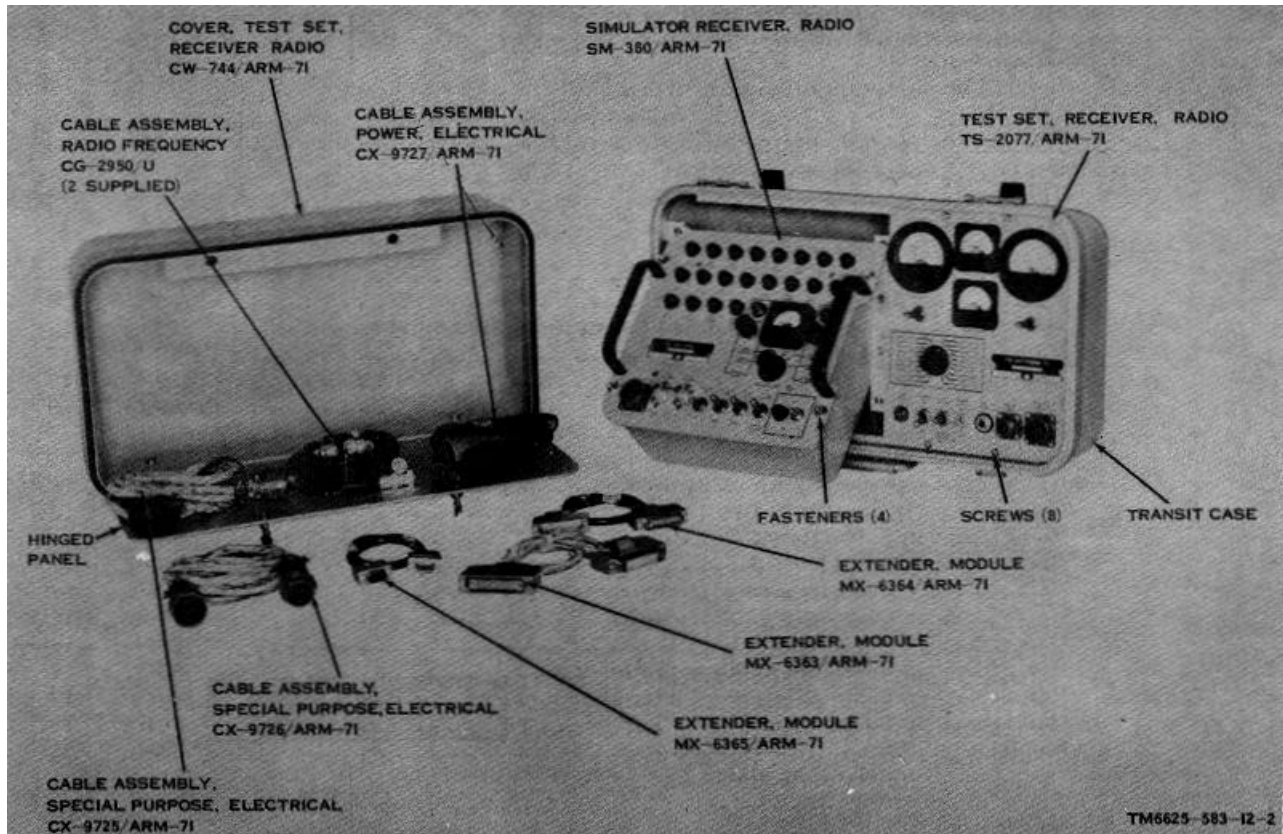
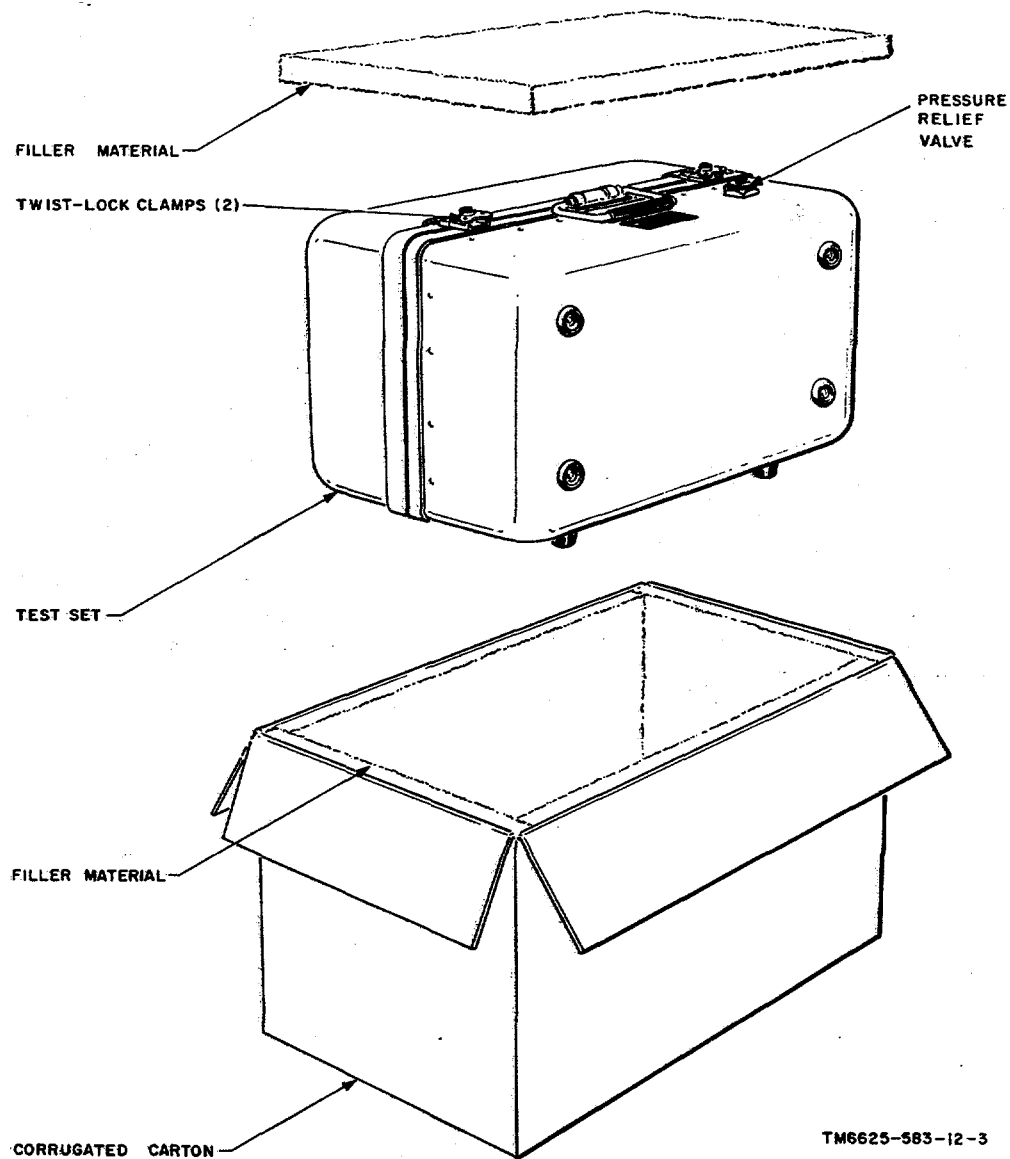

Figure 1. Test Set, Receiver, Radio AN/ARM-71.
Figure 3. Typical packaging.
This manual describes Test Set, Receiver, Radio AN/ARM-71 (fig. 1) and covers its operation and the operator's and organizational maintenance. The maintenance includes preventive maintenance checks and services, cleaning, preservation, and replacement of indicator lamps.
##### 4. Purpose and Use (fig. 1)
## 8. Description of Test Panel and Receiver Simulator (fig. 1)
*a. Transit Case and Cover (fig. 1).* The molded fiberglass transit case is a lightweight, rectangular-shaped, waterproof container, sealed by a rubber gasket which makes the interior moisture-proof. The transit case cover, hinged at the back, has a rubber seal installed in the extruded aluminum edge molding. Two twist-lock clamps (fig. 3) on the front of the transit case cover hold the transit case closed. The hinges are separable, which allows the cover to be removed. A pressure-relief valve (fig. 3) equalizes inside to outside pressure. A hinged panel (fig. 1) on the inside of the transit case cover is opened and closed by two quick-disconnect fasteners. The hinged panel provides storage space for the cables and module extenders. A spring-loaded handle is mounted on the latch side of the case to facilitate carrying.
shipment, it weighs 30 pounds. A typical shipping carton and its contents are shown in figure 3.